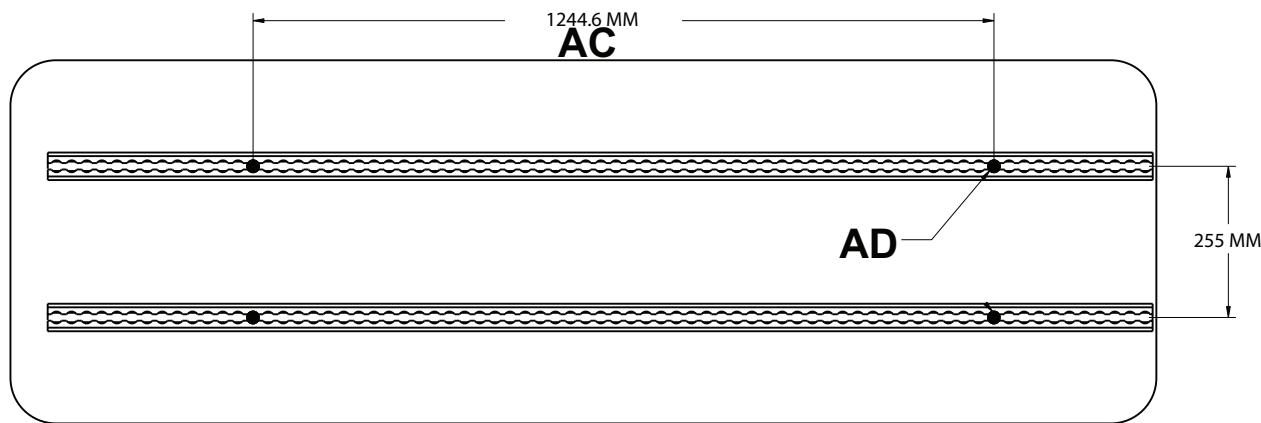
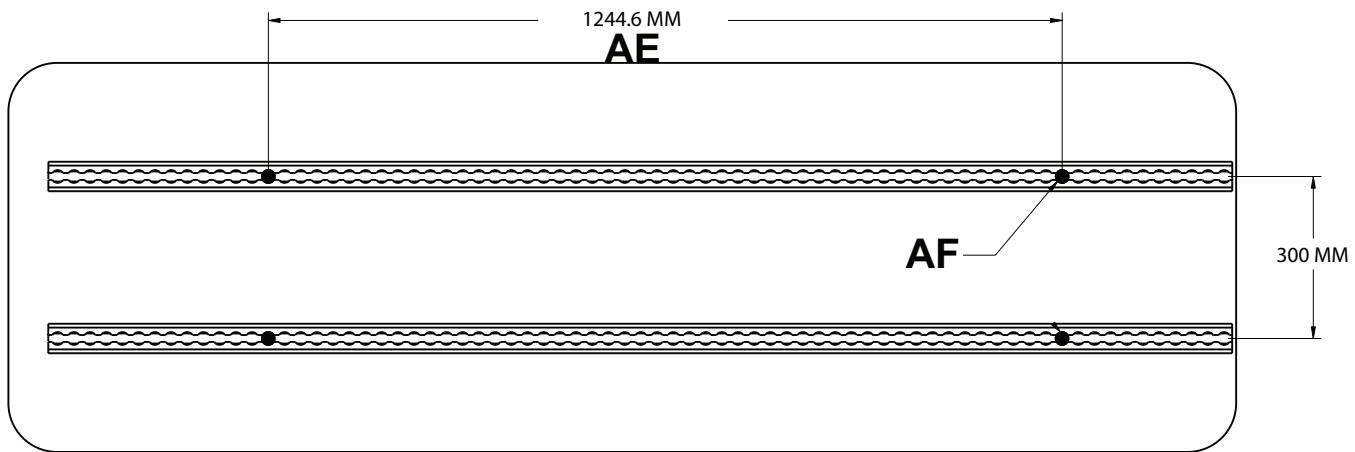

Figure 10 – Floor track installation locations
Figure 11 – Floor track installation locations
4. Identify the location for the foot end fastener and head end fastener from Figure 10 for Model 6386 and Figure 11 for Model 6387.
4. Identify the location for the foot end fastener and head end fastener from Figure 10 for Model 6388 and Figure 11 for Model 6389.
2. Using the dimensions shown in Figure 10, identify where the floor tracks will attach.
2. Using the dimensions shown in Figure 11, identify where the floor tracks will attach.